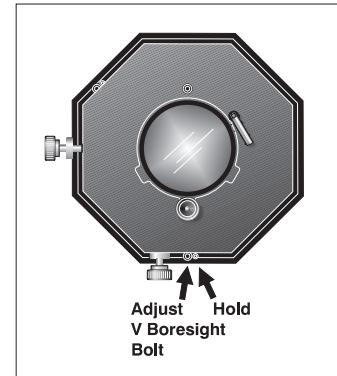

Figure 2.40 Adjust Top/Bottom Boresight
2. Adjust the vertical boresight bolt (Figure 2.40) using one Allen key to hold the bottom hex screw and another to turn the adjustment bolt above it. Adjust as necessary to direct or “aim” the lens toward the edge of the image that focused too close to the lens. When both top and bottom appear equally blurry, re-focus at the top of the screen.